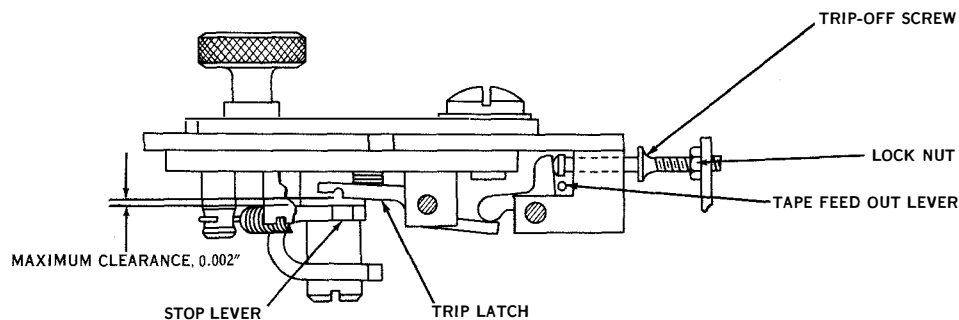

Figure 7-37. Trip Latch
Replace the Rangefinder Assembly. In replacing the rangefinder, make certain that the tape feed-out lever fits under the left end of the trip-latch plunger; also avoid jamming the trip-latch plunger against the armature trip-off eccentric screw when remounting (see figure 7-37).
(25) **TAPE FEED-OUT LEVER.** (See figure 7-37.)—The tape feed-out lever should be free to rotate with a minimum amount of end play. To adjust, position the tape feed-out lever adjusting collar. Hold the collar in place and tighten the setscrew. This collar is located immediately under the tape feed-out lever.
(26) **TRIP-OFF SCREW.** (See figures 7-37 and 7-34.)—There should be some clearance, not more than 0.002 inch, between the trip latch and stop lever. To check, place the armature in its unoperated position and rotate the selector cam sleeve until the stopping edge of the stop lever is directly below the latching surface of the trip latch. Take up the play in the stop lever by placing a screwdriver as close to the bearing as possible and applying the thrust toward the trip latch.